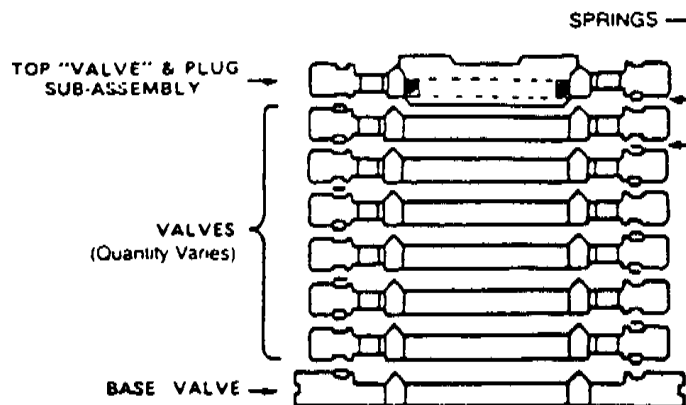

FIGURE 9
1. Refer to drawings D17408, D17477 and Figure 9.
4. For proper installation on the homogenizer carefully slide the entire assembly onto the inlet flange studs (23). Locate the assembly so that it stands upright with the inlet flange (1) located at the bottom. With the gasket (2) in place, slide the assembly fully onto the studs, taking care not to damage stud threads. Install the stud nuts (24) and tighten evenly and firmly to compress the gasket and prevent leakage.